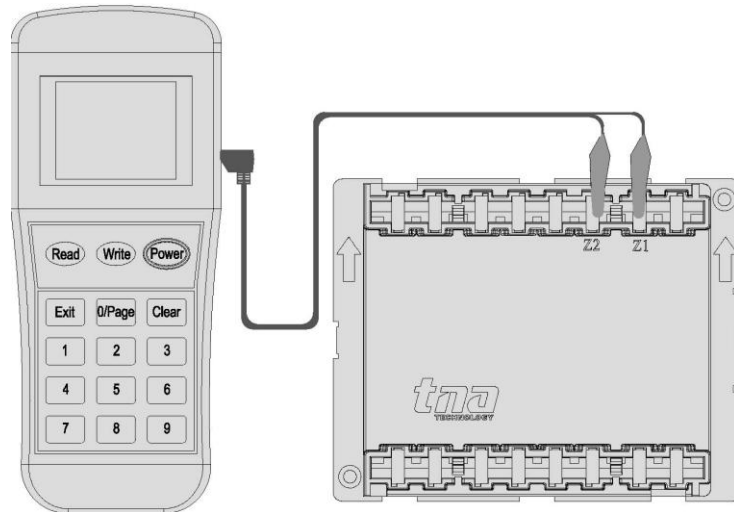

Figure 6: Programmer Connection Details
1. Connect the programming cable to Z1 and Z2 terminals (Figure 6). Press **“Power”** to switch on the unit.
2. Connect the programming cable to Z1 and Z2 terminals (Figure 6). Press "**Power**" to switch-on the unit.
2. Connect the programming cable to Z1 and Z2 terminals (Figure 6). Press **"Power"** to switch-on the unit.
1. Connect the programming cable to Z1 and Z2 terminals (Figure 6). Press **"Power"** to switch-on the unit.